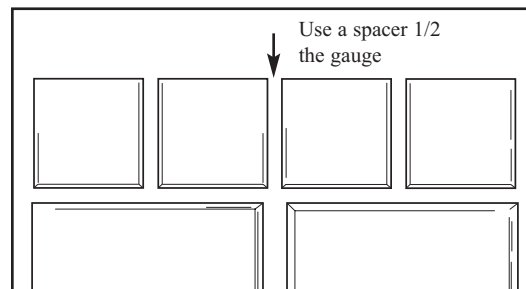

Fig. 19 - Separated tiles will have one additional grout line.
- When installing custom installations that combine 16" x 16" formats with 8" x 8" formats, it will be necessary to use different size spacers to maintain straight joints. Tiles that have been scored and separated will have one additional grout line that needs to be calculated in the overall size (Fig. 19). To compensate for the additional grout joint, the separated tiles should be installed with a spacer that is one-half the thickness of the spacer used for the whole tiles (Fig. 20). The joints can be off-set on border tiles as an alternative to using different spacer sizes (Fig. 21).